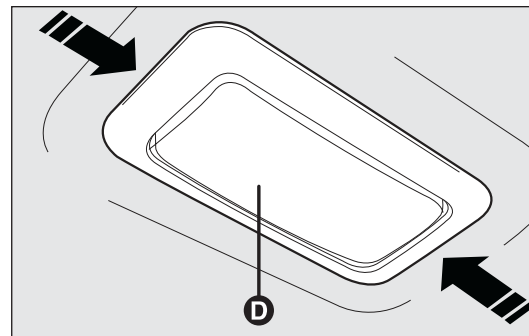

fig. 177
- ☐ manipulate the points shown by the arrows and remove light D-fig. 177;
- ☐ re-close the protective flap E and fit light D-fig. 177 into its housing, making sure it locks into place properly.